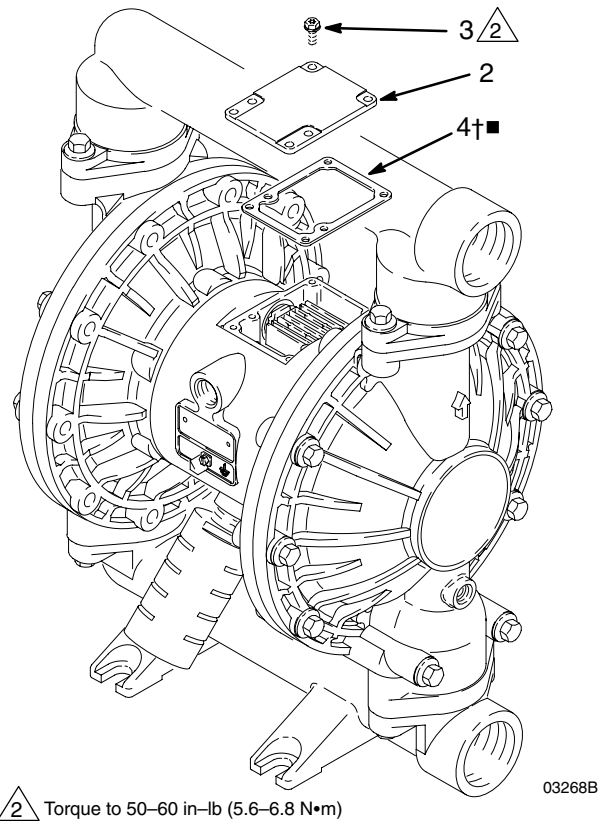

Fig. 6
2. With a Torx (T20) screwdriver or 7 mm socket wrench, remove the six screws (3), air valve cover (2), and gasket (4). See Fig. 6.
10. Align the valve gasket (4†■) and cover (2) with the six holes in the center housing (1). Secure with six screws (3), using a Torx (T20) screwdriver or 7 mm socket wrench. Torque to 50–60 in-lb (5.6–6.8 N•m). See Fig. 6.